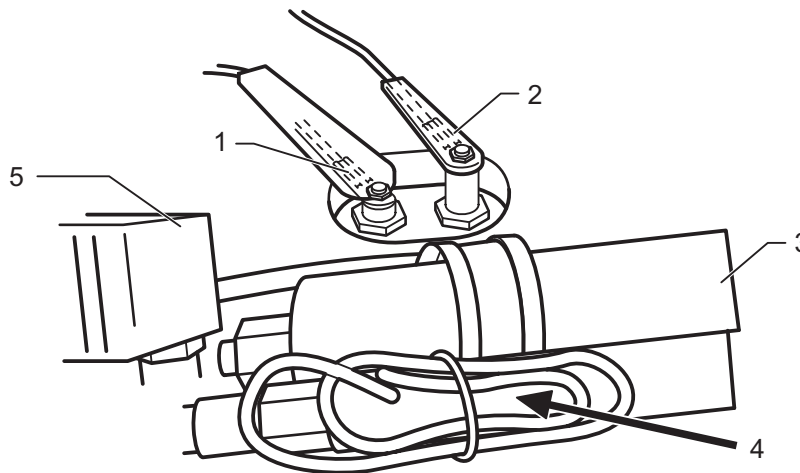

Fig. 32: Position of the high and low electrodes
The water feed pump (M1) is a vibration pump (see Fig. 32: oben, pos. 3) with impeller.